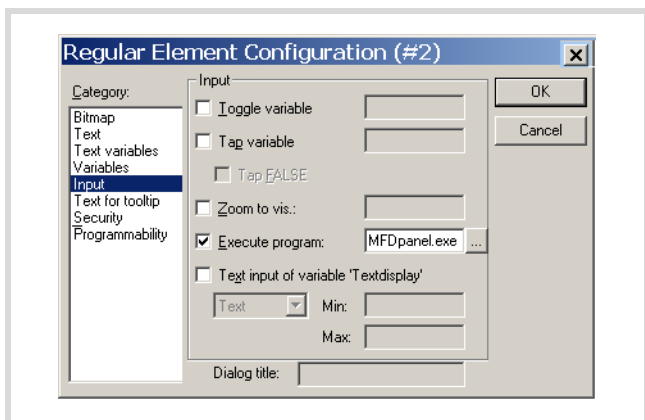

Figure 22: Configuring an element
- ▶ Double-click the button with the left mouse button. The window will be displayed as shown in Figure 22.